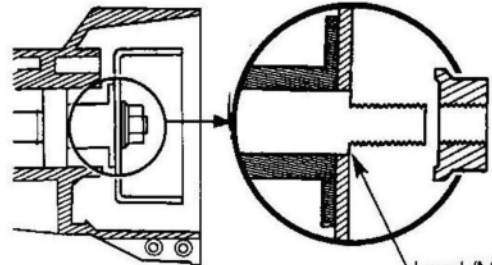

FIG 56
**Shaft clearance under flange nut.** Shoulder of shaft not to protrude through clutch drum more than 1mm. If protrusion of shoulder is more than 1mm, flanged nut will not tighten clutch drum. See Fig 56 for correct installation.